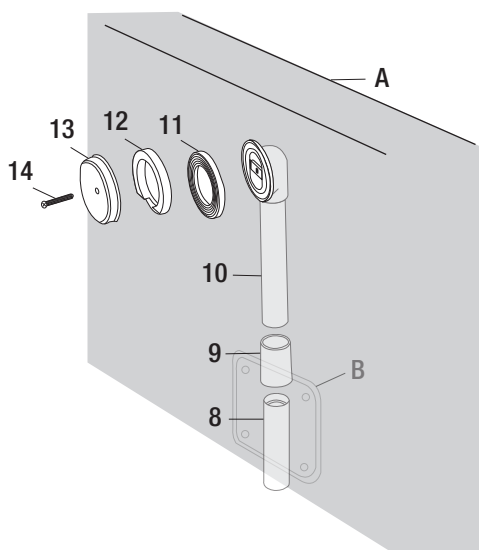

Fig. 5
- Gently bend the copper pipe (8) and feed it between the inner walls of the tub. Use the opening through the access door (B) to position the copper pipe (8).
- Assemble the overflow (see Fig. 5), ensuring the gasket (11) is inside the tub, and the spacer (12) is on the outer wall of the tub. Tighten the screw (14).